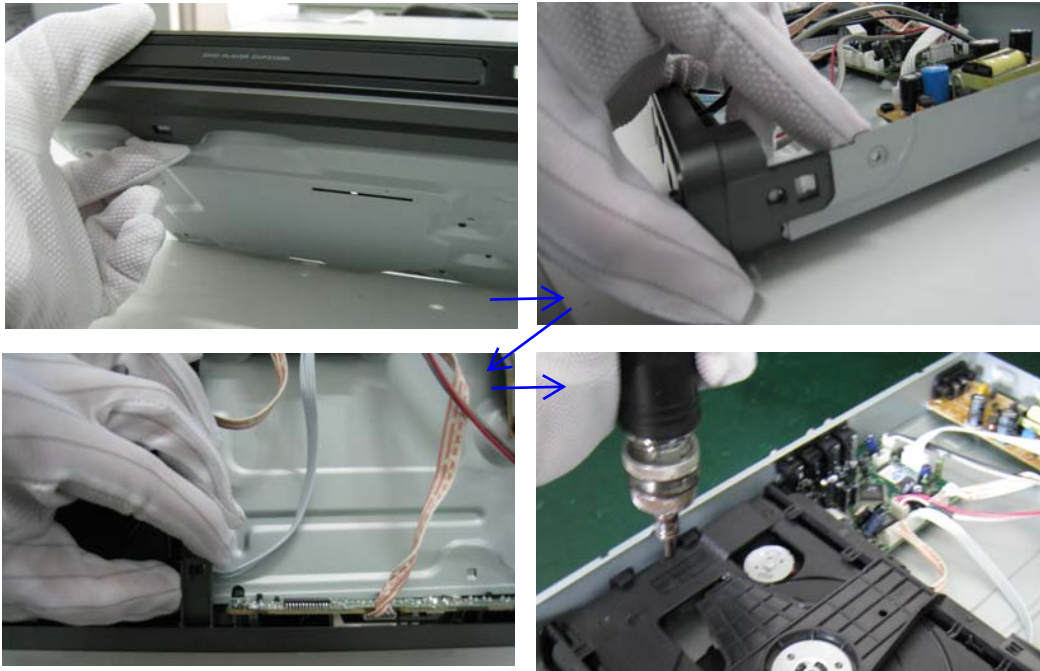

Figure 5
**Step5:** Dismantling Loader, disconnect the 3 connectors (XP2, XP3, XP4) aiming in the below figure, and remove 1 screw that connects the loader and the bottom cabinet. (Figure 5 & 6)